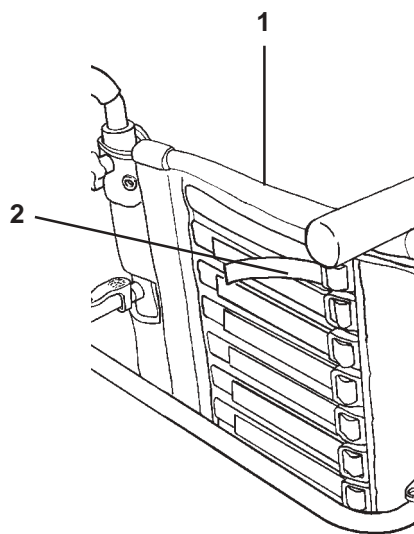

Fig. 31
To adjust the upholstery (Fig. 31) first lift up the back flap (1) covering the strips, with the user sitting in the chair, proceed to loosen or tighten each individual strap (2). It is necessary to follow the profile of the users back (In practice this will generally mean tightening the straps around the lumbar region, and loosening the straps around the posterior and upper back). These adjustments should only be performed by a qualified therapist.